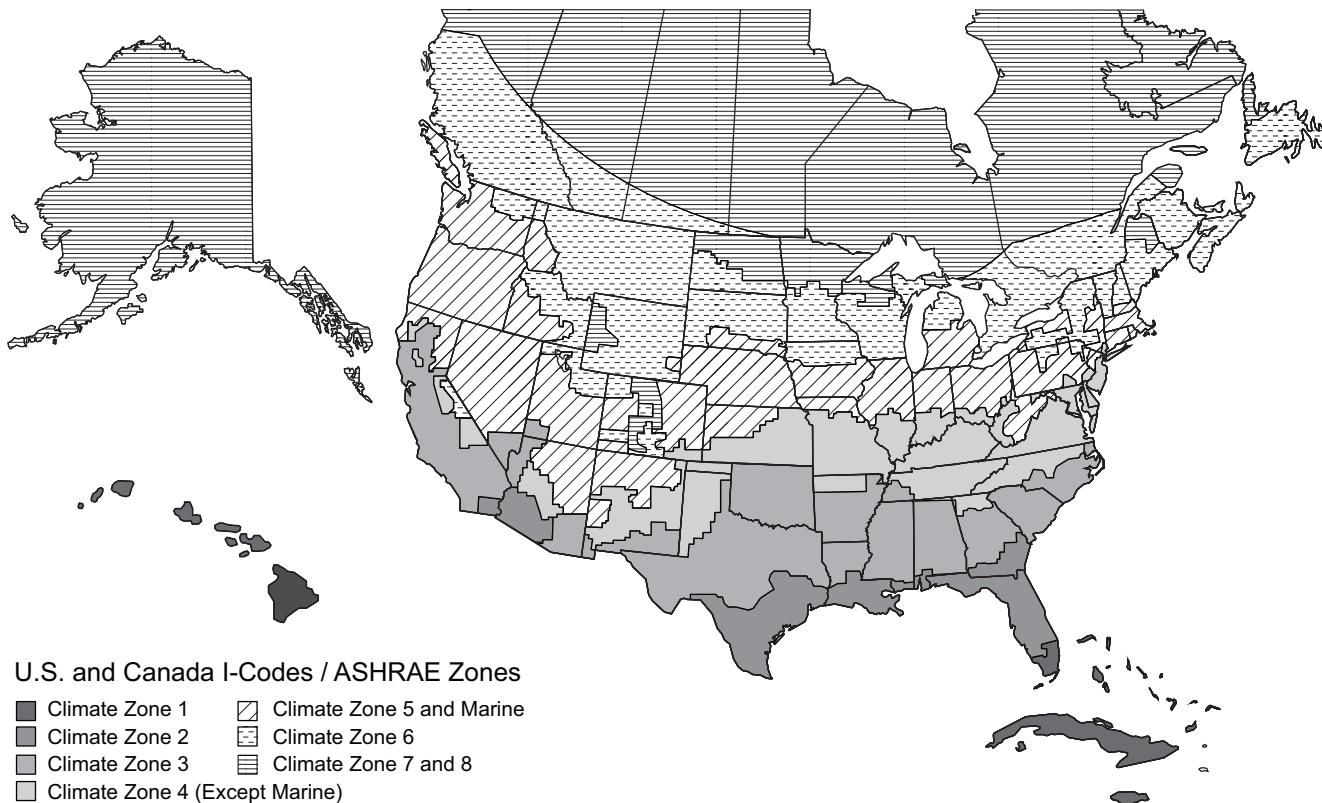

Fig. 75 — U.S. and Canada Climate Zones
- a. See Fig. 75 for map of U.S. and Canada climate zones.